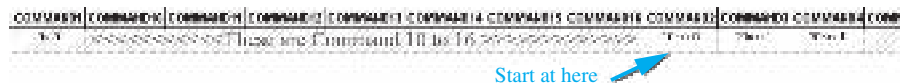

FIGURE 10.64 Command value of first digital source.
- Next, set up the output signal sequence of the DTSM (STIM1) source in the logic circuit. Click on the first STIM1 digital source of the AND logic part and go to its properties through “Edit Properties.” Enter the values, “10 ms 0,” “20 ms 1,” and “30 ms 1” inside the Command 2, 3, and 4 columns (see Figure 10.64).